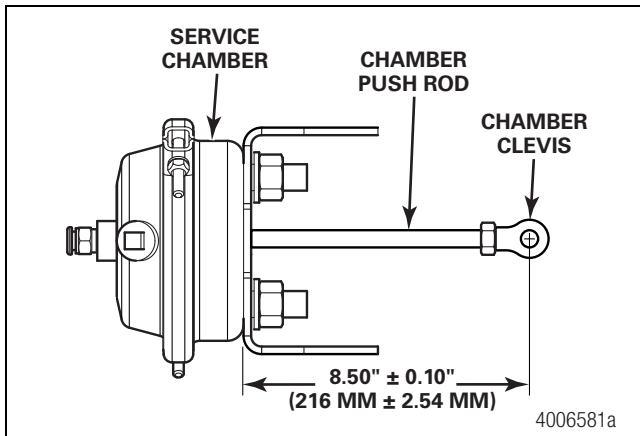

Figure 8
8. Check the service chamber dimension. Figure 8.